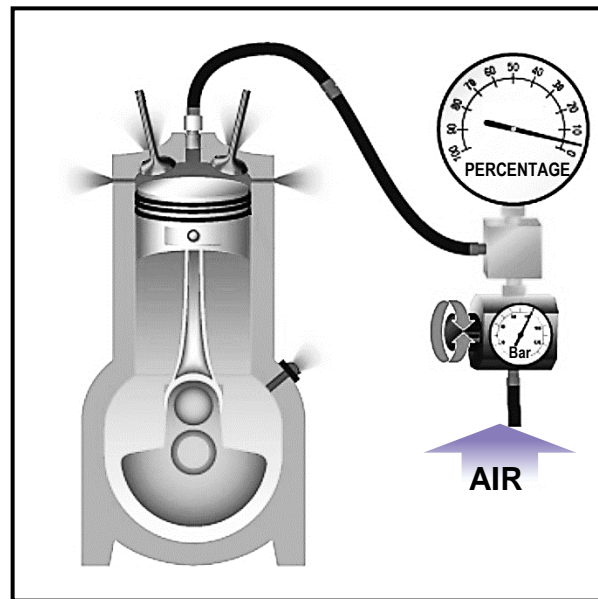

FIGURE 4.8
- (1)
4.8 What type of engine diagnostic test is shown in FIGURE 4.8 below?